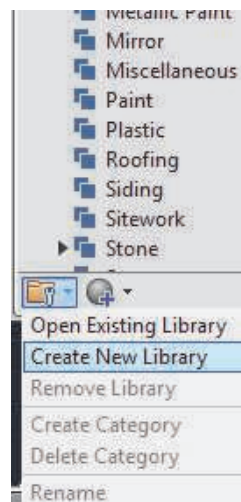

Figure 10–18
1. In the Materials Browser, expand  and select **Create New Library**, as shown in Figure 10–18.